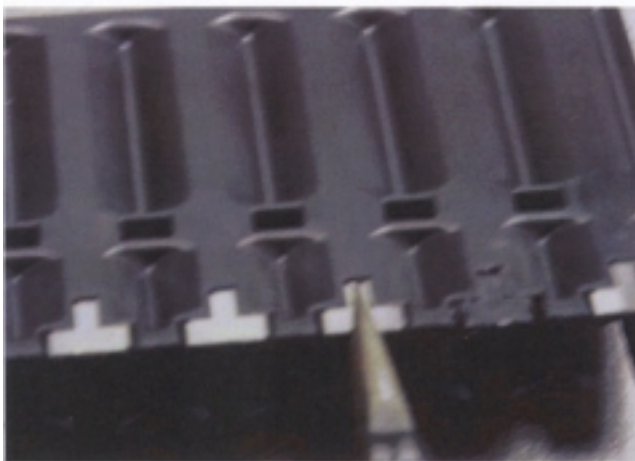

Figure 1 (Rear View of Sample Rack and Springs)
1. Using a pair of needle nose pliers grip the back of the rack and spring clip, see figure 1.